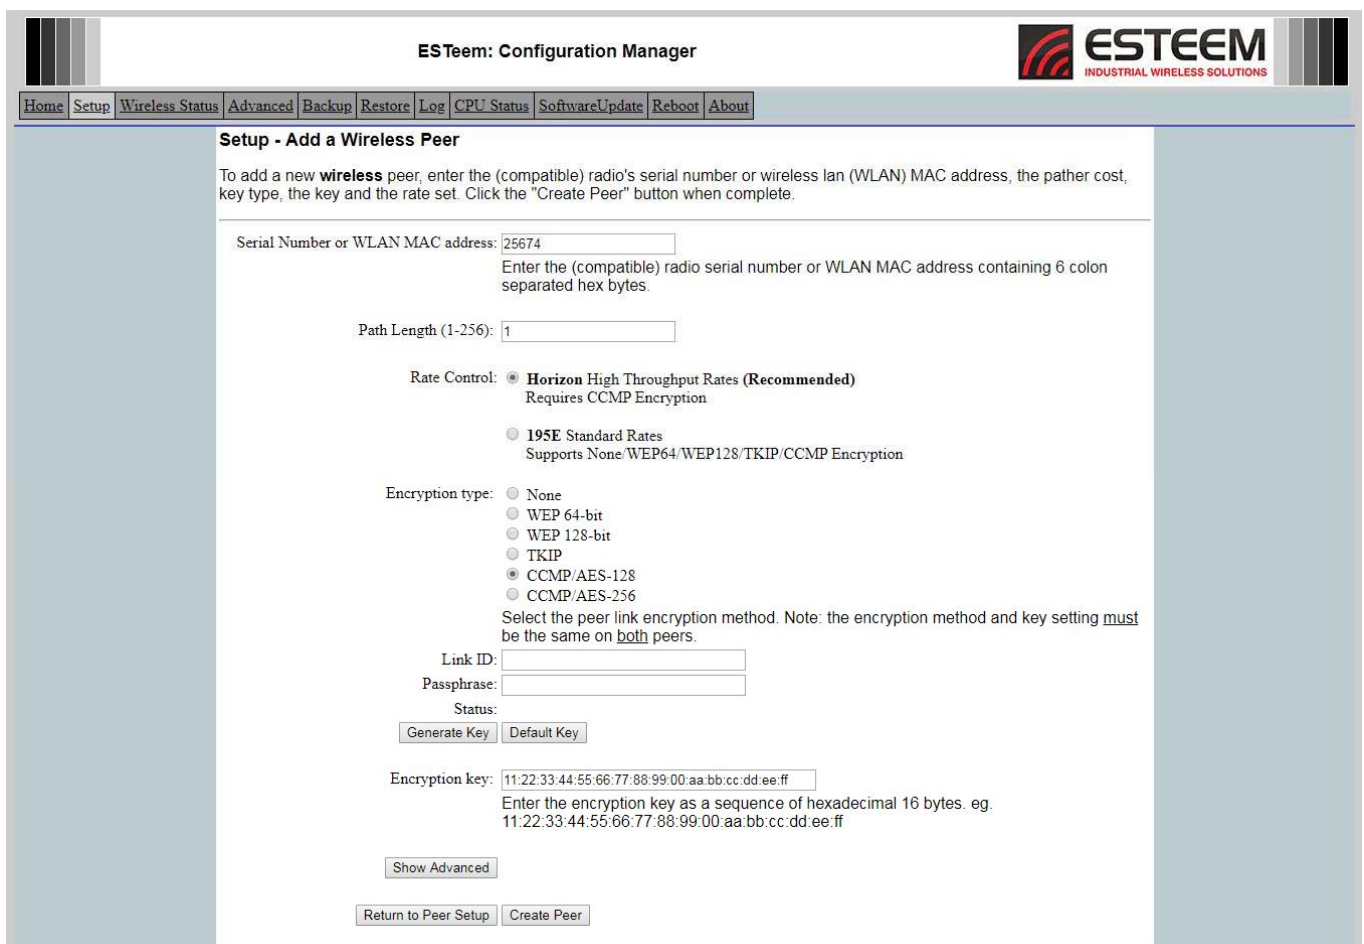

Figure 21: Peer Configuration
13. The peer entry screen will be displayed (Figure 21). From this page all setting for this peer link can be adjusted. The serial number or wireless MAC (WLAN MAC) of the opposite Horizon will be entered in the first field. The serial number can be either the complete number containing the “Z-” (i.e. Z-25674) or just the numbers as shown in Figure 21. The path length will only need adjustment in certain cases in a Mesh network (see Chapter 7 – Bridge/Meshing for full details). The Rate Control will need to be set to Horizon as the remote is also a Horizon series radio (not a legacy ESTeem 195E radio). The encryption type and key must be identical on both sides of the peer link. The Encryption key can be manually entered or generated by using a Link ID and Passphrase, which must be the same on both radios. For this example, the default key will be used so press the “Default Key” button and the “Create Peer” button to continue.